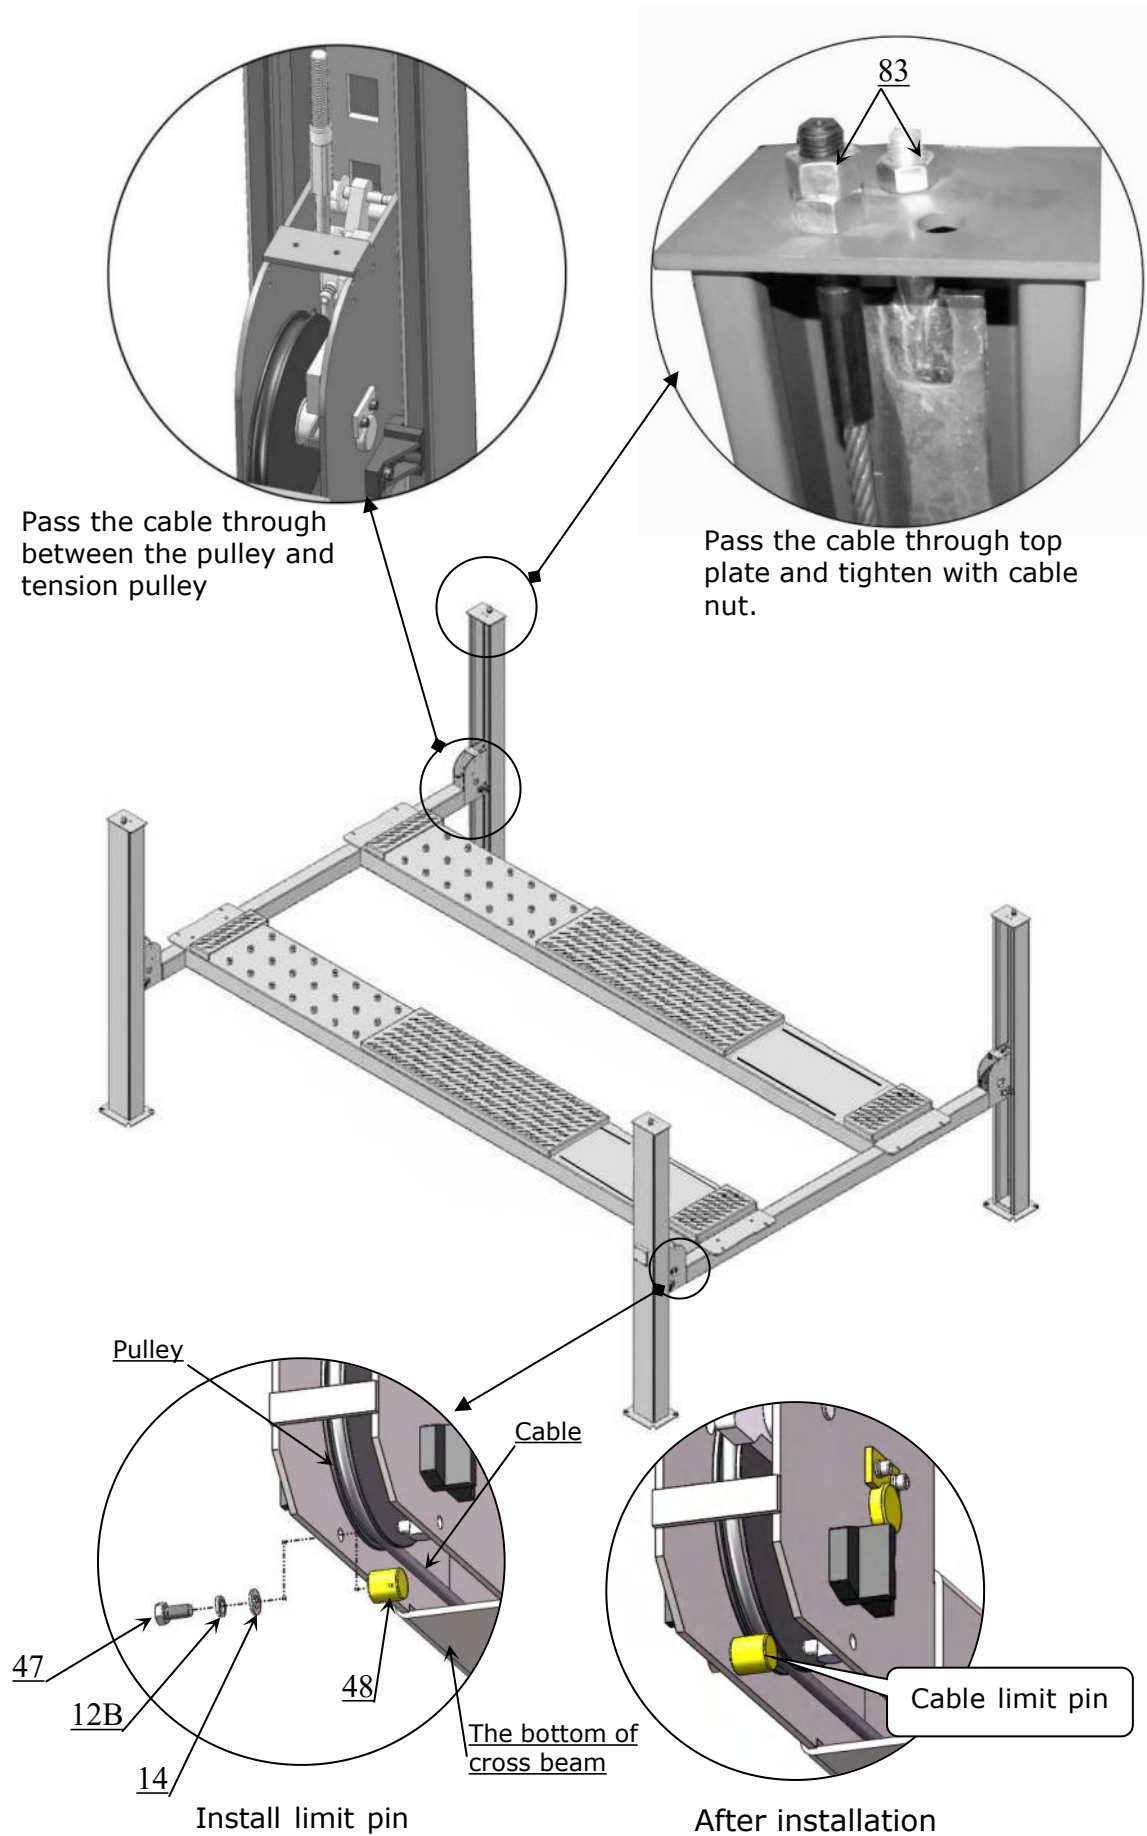

Fig. 25
2. The cable pass through the cross beam to top plate of columns and be screwed with cable nuts, then install cable limit pin (**See Fig. 25**).